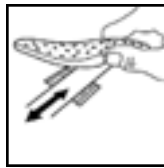

FIGURE 13
- a. Gently peel the sides of the front pads away, exposing the end of the elastic side strap and the hook and loop fastener strip used to secure the elastic side strap in position, see Figure 13.